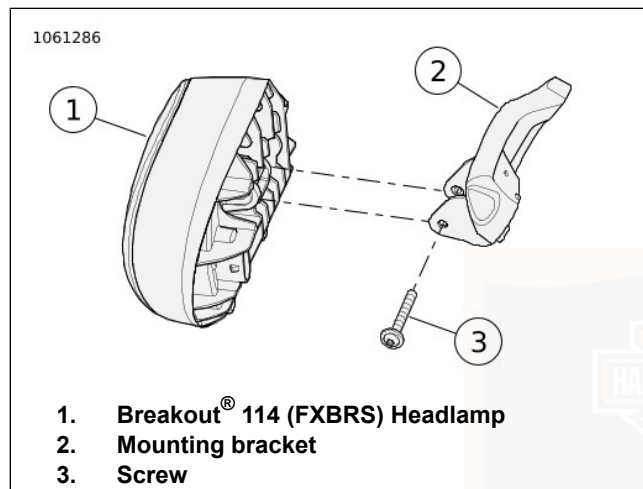
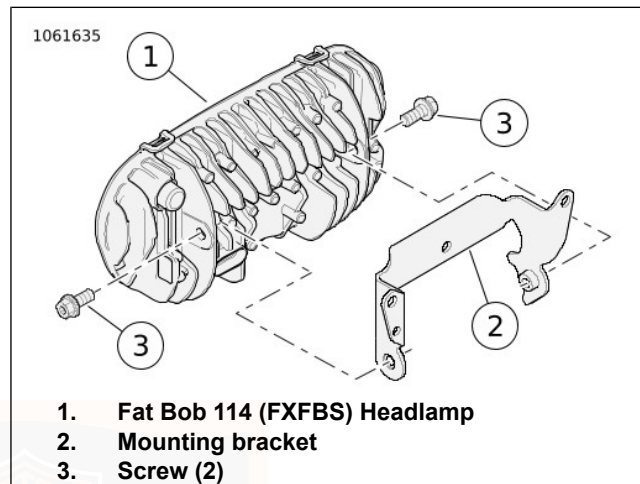

Figure 79. Headlamp Adjustment
Figure 80. Headlamp Adjustment
1. See Figure 79 and Figure 80. Loosen vertical adjustment screw (3). Adjust headlamp vertically until beam centers on horizontal line.
2. Tighten vertical adjustment screw (3):